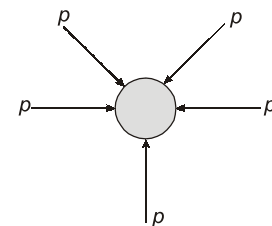

Figure 2.2 A point in a fluid system
- According to Pascal's law, pressure at a point in a fluid system is equally distributed in all directions (Figure 2.2).